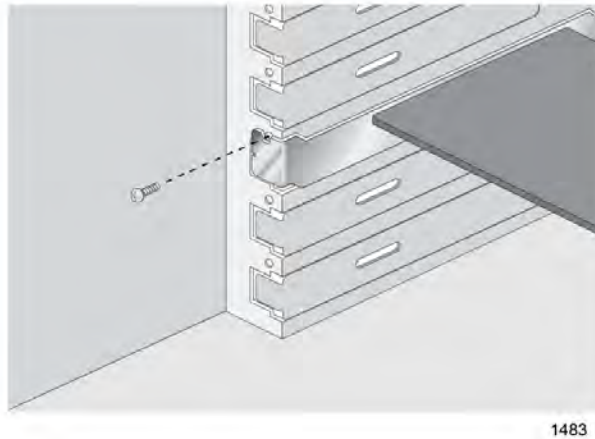

Figure 11. Securing the Adapter with a High-profile Bracket
9. Secure the network adapter card to the chassis with a Phillips-head screw (not provided). See Figure 11.